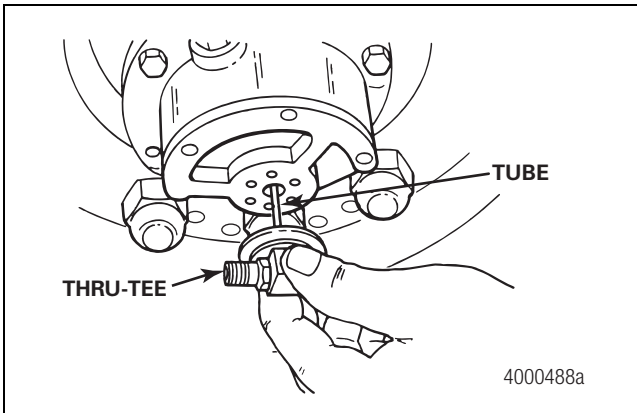

Figure 2.47
- Carefully install the thru-tee assembly STRAIGHT into the hubcap to insert the tube into the stator. When you insert the tube into the stator, it's normal to feel some resistance when the tube contacts the stator seal. Figure 2.47.